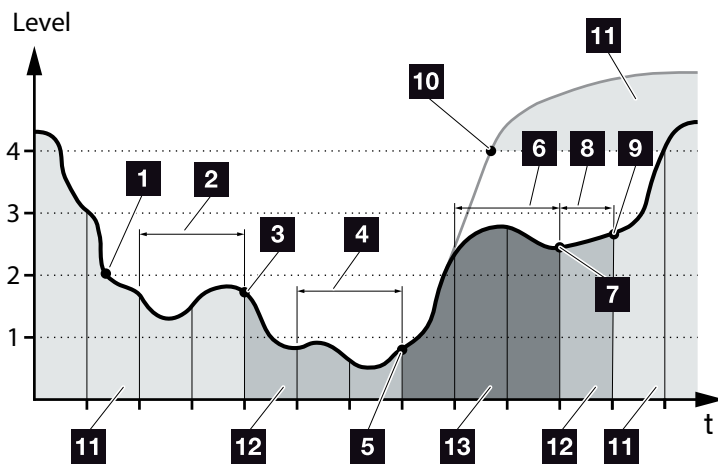

Fig. 55: Automatic mode
Unlike “Automatic” mode, the battery is switched off here as soon as the PV energy falls below level 1 for two days in succession  **Fig. 55, item 5.**